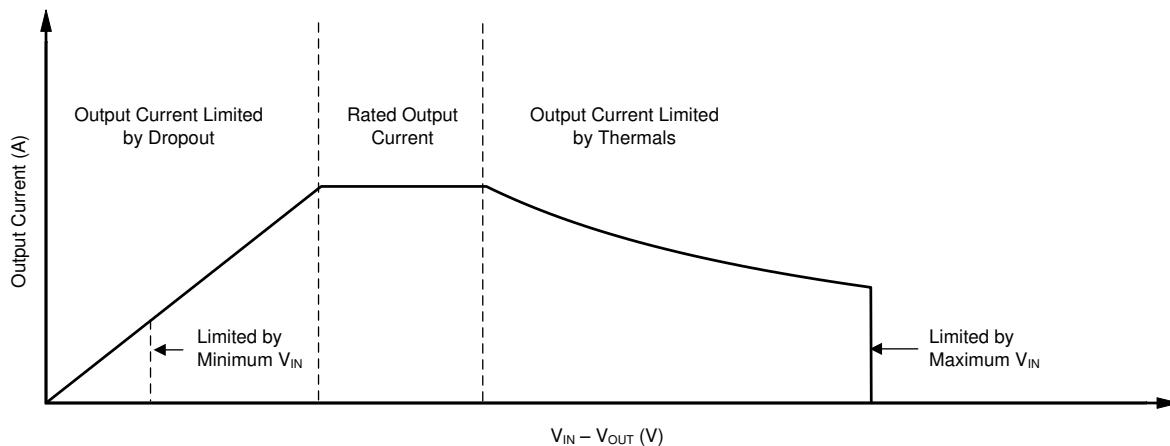

图 8-3. Continuous Operation Diagram With Description of Regions
The operational area of an LDO is limited by the dropout voltage, output current, junction temperature, and input voltage. The recommended area for continuous operation for a linear regulator is illustrated in 図 8-3 and can be separated into the following regions:
- 図 8-3 provides the shape of the slope. The slope is nonlinear because the maximum rated junction temperature of the LDO is controlled by the power dissipation across the LDO; thus, when $V_{IN} - V_{OUT}$ increases the output current must decrease.